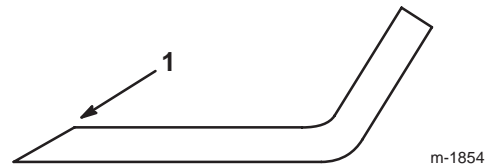

Figure 35
1. Use a file to sharpen the cutting edge at both ends of each blade (Fig. 35). Maintain the original angle. The blade retains its balance if you remove the same amount of material from both cutting edges.